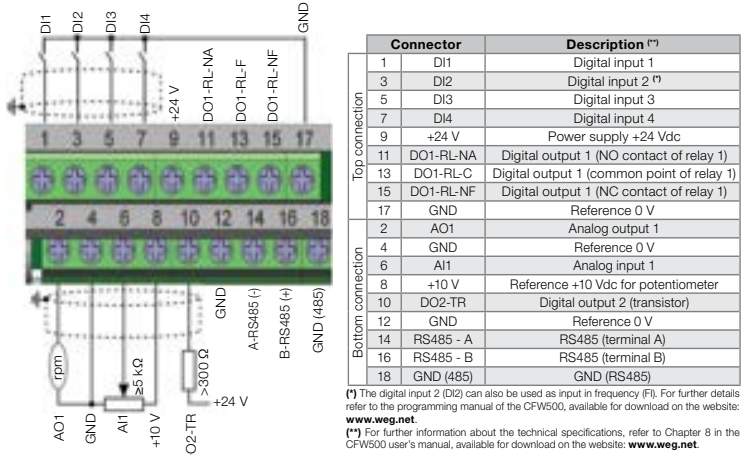

Figure 5: Signals of the connector of the CFW500-IOS plug-in module
■ In order to meet UL requirements, use ultra fast (for frame sizes A, B and C), and use fuse type J or circuit breaker (for frame sizes D and E) fuses at the inverter supply with a current not higher than the values presented in Figure 5.
The control connections (analog input/output, digital input/output and interface RS485) must be performed according to the specification of the connector of the plug-in module connected to the CFW500. Refer to the guide of the plug-in module in the package of the product. The typical functions and connections for the CFW500-IOS standard plug-in module are shown in Figure 5.